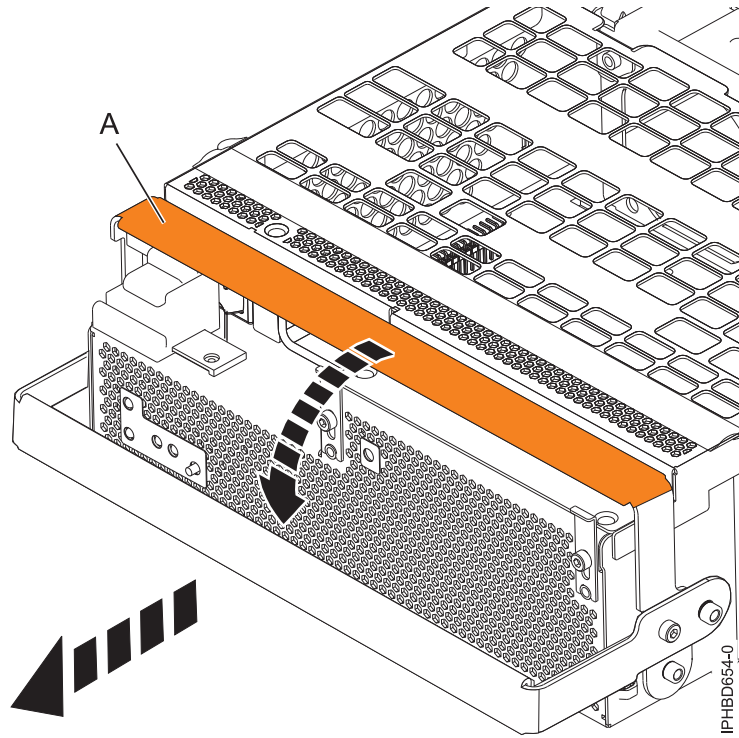

Figure 14. Removing a power supply
- Rotate the power supply locking handle (A) to the open position, as shown in Figure 14 on page 15. Pull out the power supply from the expansion unit.